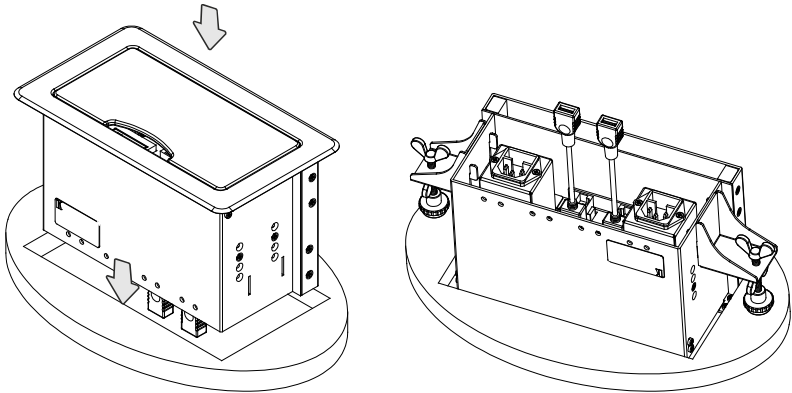

Figure 5: Inserting TBUS-6xl into the Prepared Opening
2. Carefully insert the unit into the prepared opening (see Figure 5).
5. Tighten both mounting butterfly screws upward until they reach the table surface (from underneath). Tighten firmly (see Figure 5).